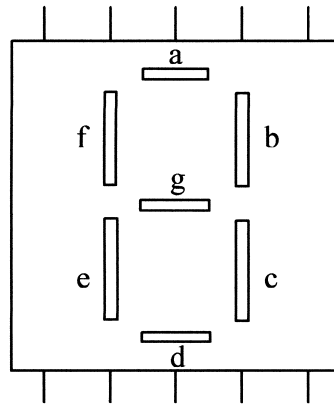

Figure 12b
- (b) **Figure 12b** below shows a seven-segment display for recording the numbers of people boarding the ship correctly. Each of the segments can be thought of as an LED which illuminates when it has a value of 1.